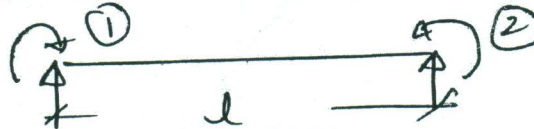

Fig.Q.1(b)
- b. Develop stiffness and flexibility matrix for the beam element shown in Fig.Q.1(b), with respect to coordinates (1) and (2). Also show that they are inverse of each other. (08 Marks)